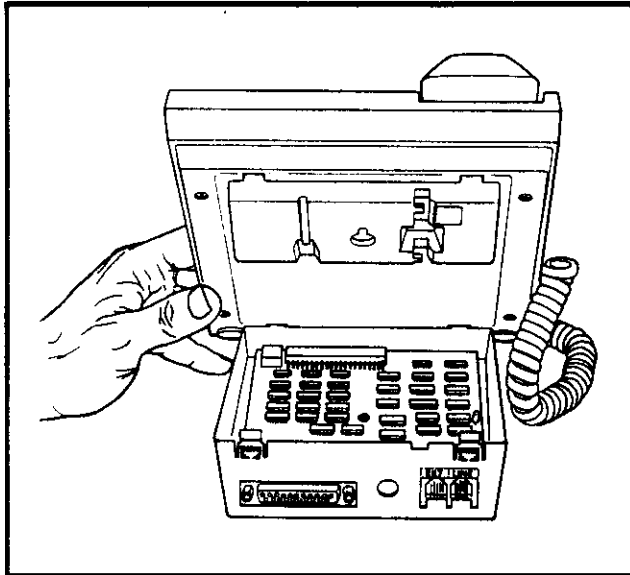

FIGURE 40—DDIU-MAT INSTALLATION
10.11 The DDIU-MAT mounts directly onto the bottom of a 6000-series electronic telephone, to form a single unit (Figure 40). Follow the steps below to install the DDIU-MAT: